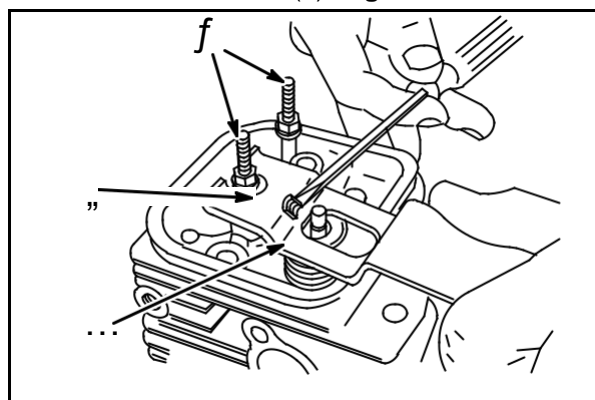

Fig. 19
Compress valve spring and retainer with Valve Spring Compressor #19347 (5). Install the valve retainer locks (4), **Fig. 19**.